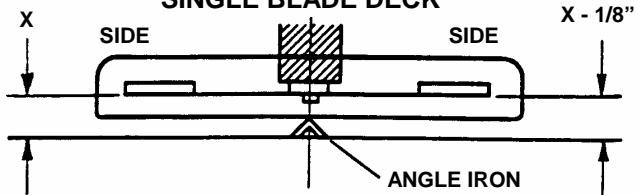

FIGURE 4.7
- e. Measure the distance from blade tips to floor. If the measurement is within  $1/8"$  from side-to-side, the deck levelness is satisfactory. If the difference from side-to-side is greater than  $1/8"$ , continue to the next page for adjustment. See Figure 4.7.